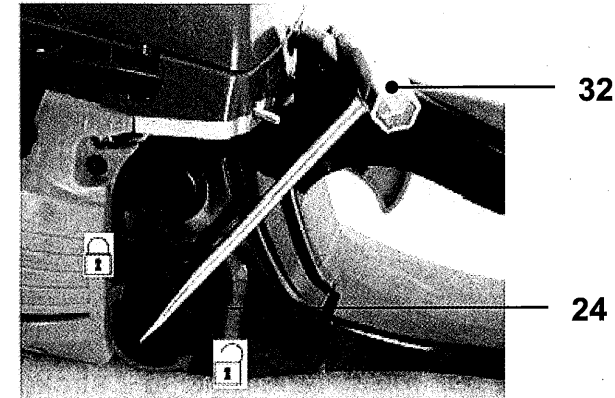

Fig. 18
7. Unscrew and remove the fuel tank cap (24) (Fig. 18).